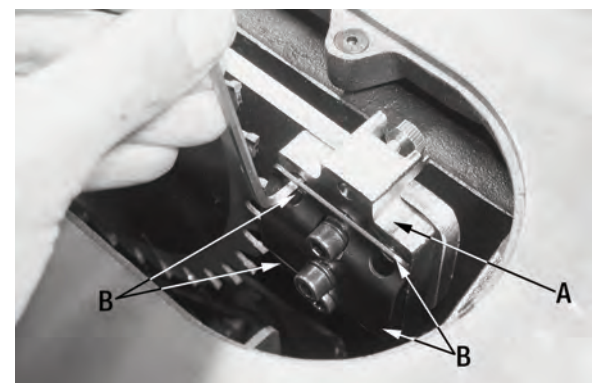

FIGURE 19
Place a straightedge against the blade and the riving knife and check for parallelism. If an adjustment is needed, the mounting position of the riving knife support plate assembly (A) Fig.19 can be adjusted into alignment with the blade.
3. The support plate assembly (A) Fig.19 can be adjusted. The support plate contains 4 set screws (B) at the 4 corners of the support plate which can be adjusted in or out with a hex. key as needed in order to bring the riving knife in alignment.